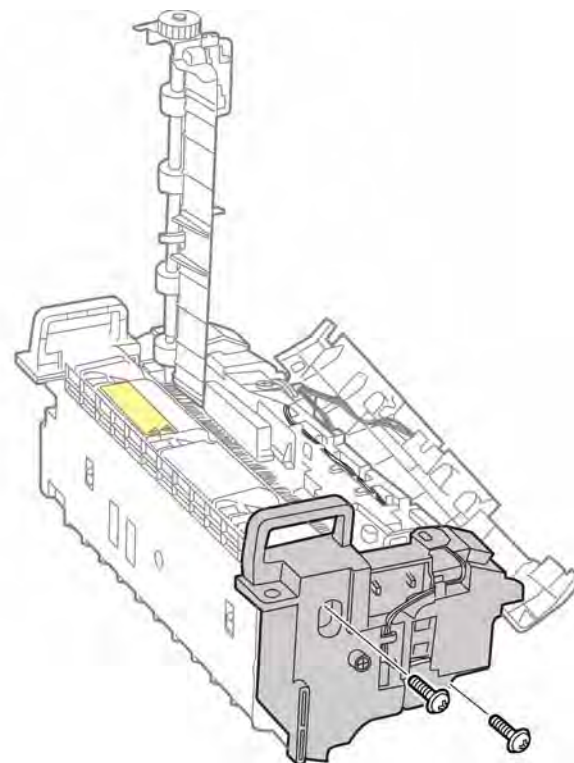

Figure 4 Remove the Fuser Right Cover
6. Remove 2 screws (silver, metal) that secure the right cover, Figure 4.